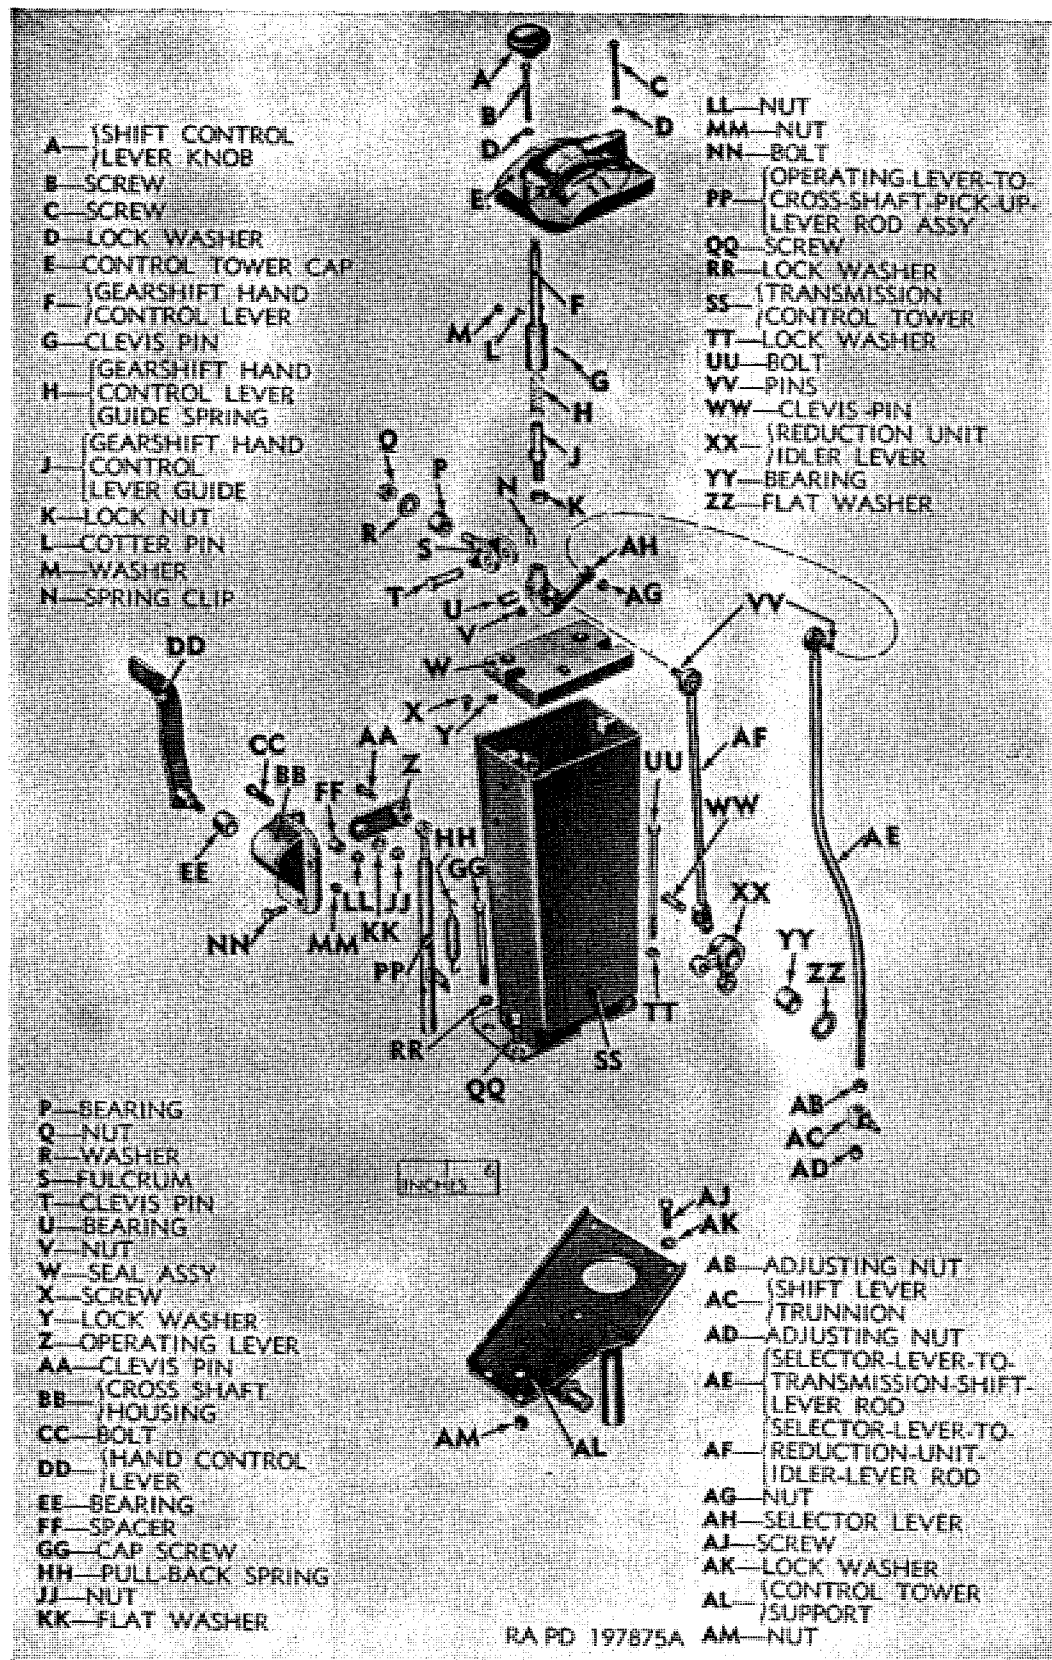

Figure 201. Control tower components.
Note. The key letters noted in parentheses are in figure 201.
- (23) Remove gearshift hand control lever guide (J) and gearshift hand control lever guide spring (H) from gearshift hand control lever (F).
- (24) Remove nut (Q), washer (R), and fulcrum (S) from control tower (SS). Remove bearing (P) from control tower (SS) only if inspection shows necessity for replacement.
- (25) Remove two screws (X) and lockwashers (Y) attaching seal assembly (W) to control tower (SS). Remove seal assembly from control tower.
c. Assembly (fig. 201).